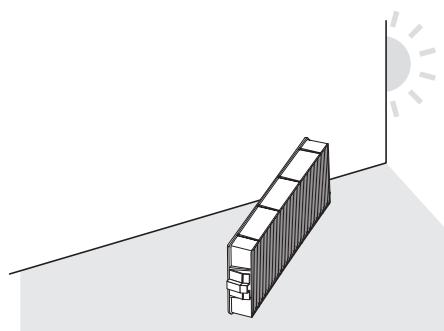

Fig. 2
3) Pull out the air filter unit. (Fig. 2)
2) Dry the air filter unit. (Fig. 2)